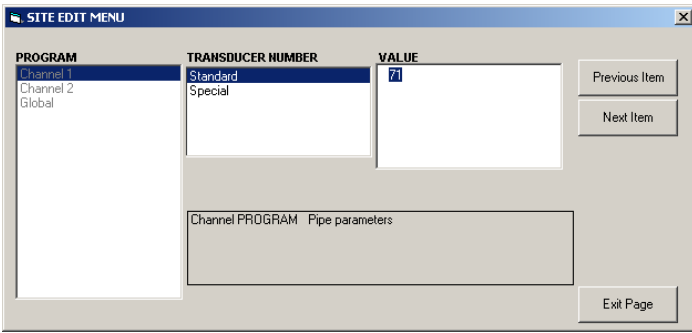

Figure 42: Pipe parameters option in the site edit menu
- a. Highlight and double-click on the desired option in the center pane. *Figure 42 on page 56* shows the first entry (transducer number) in the *pipe parameters* option. The title above the center pane lists the current entry, while the center pane displays the available selections for that entry.